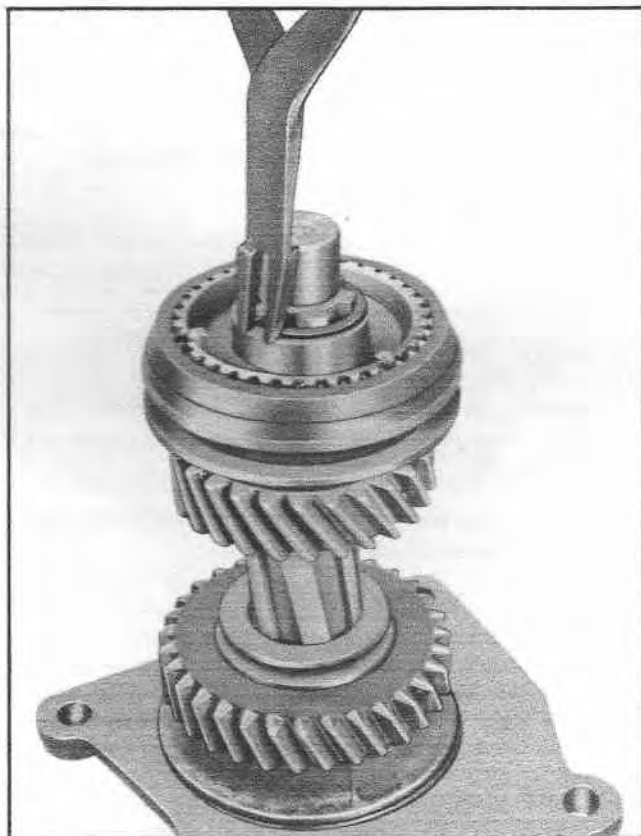

Fig. 13 Removing or Replacing Mainshaft Snap Ring
1. Remove synchronizing cone from front side of 2nd and 3rd speed clutch sleeve. Remove clutch hub retaining snap ring from front end of mainshaft, using snap ring pliers as shown in Fig. 13.